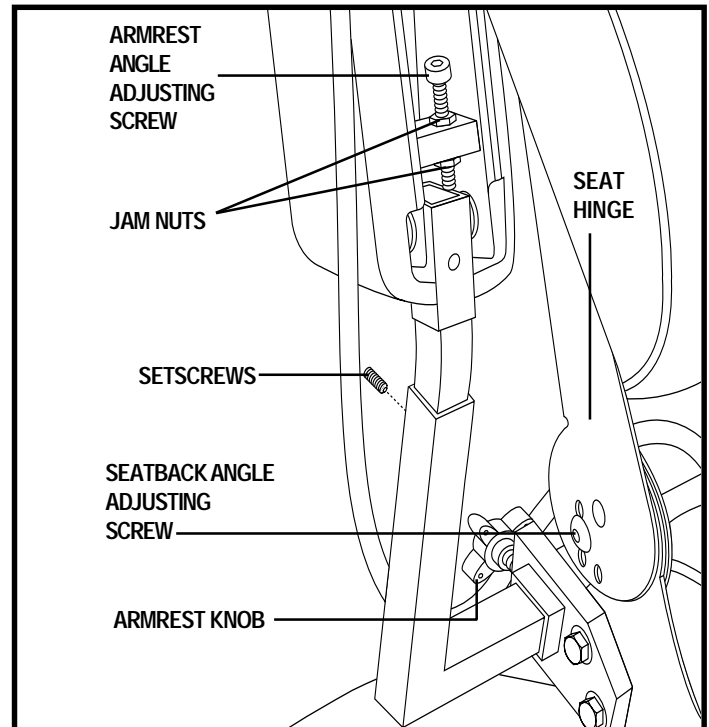

Figure 13. Armrest and Seatback Adjustments
1. Remove the adjusting screws from each seat hinge. See figure 13.
1. Locate the two armrest knobs on each side of the armrest receiver bracket. See figure 13.
1. Loosen the setscrews on the armrest. See figure 13.
1. Lift the armrest straight up so that it is perpendicular to the floor. See figure 13.